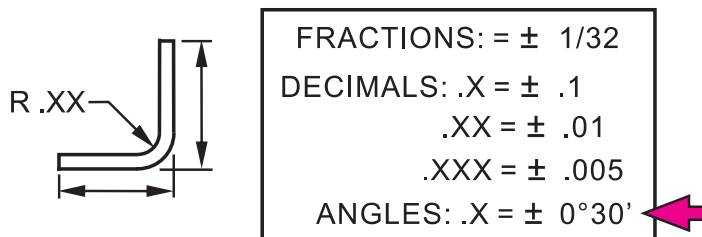

Figure 8
4.7 Features Drawn at 90 Degree Angles – A 90 degree angle is understood where lines or features are drawn at 90 degrees and no angle dimension is given. The tolerance for the understood 90 degree angles is found in the title block tolerance as shown in Figure 8.